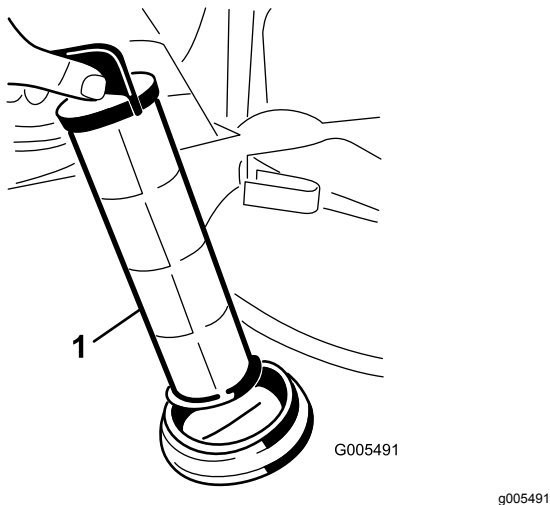

Figure 69
4. Pull the suction strainer out of the hole (Figure 69).